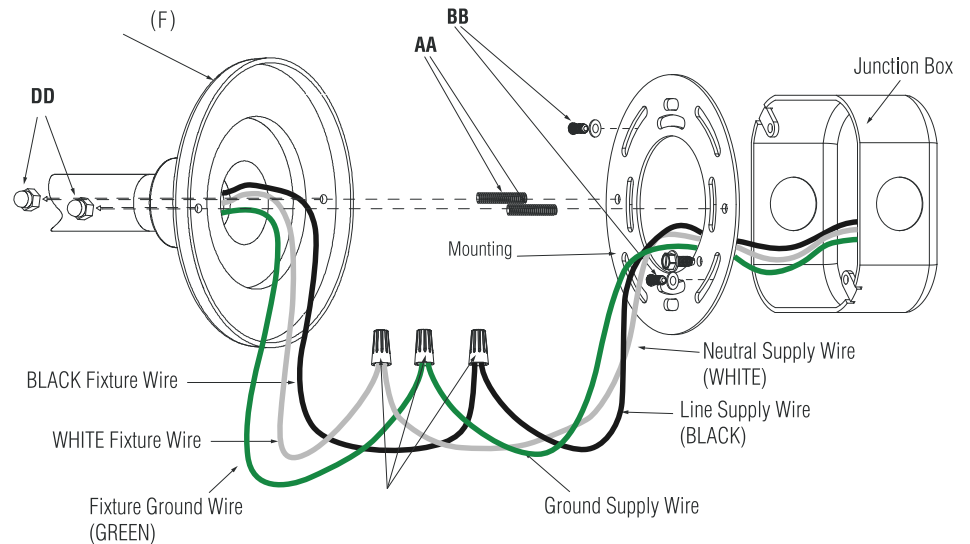

FIG. 2
Attach MOUNTING BRACKET (EE) to Junction BOX using MOUNTING SCREWS WITH WASHERS (BB). (Figure 2)
Connect wires as shown. Tuck all wiring into junction box. (Figure 2)
It is recommended to apply silicone caulk around edge of wall canopy to weatherproof (FIG 2).